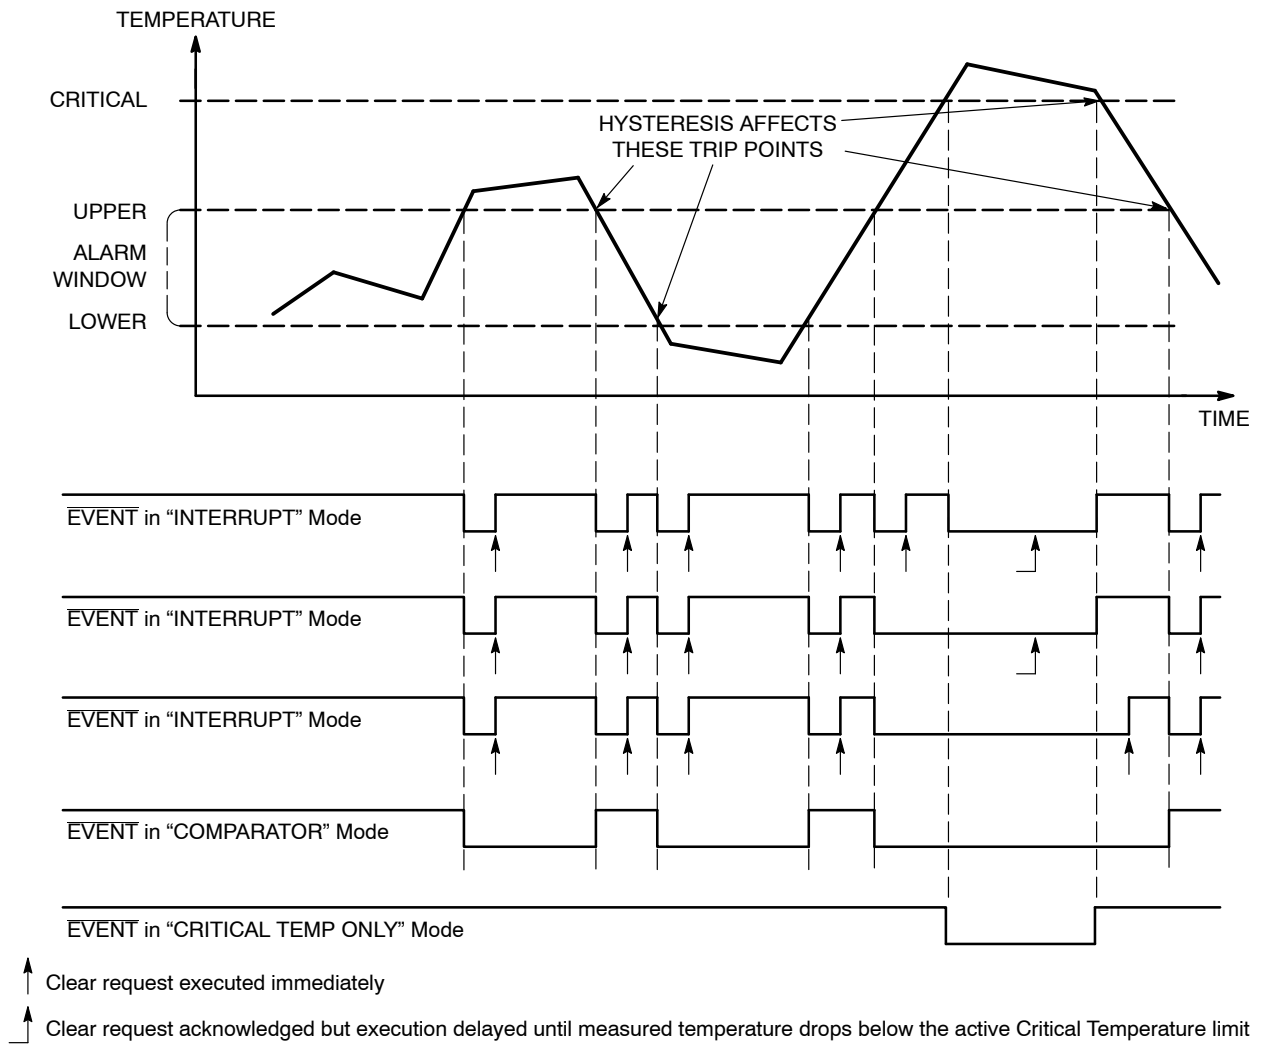

Figure 24. Event Detail
16. Writing a '1' to this bit clears an event condition in Interrupt mode, but has no effect in comparator mode. When read, this bit always returns 0. Once the measured temperature exceeds the critical limit, setting this bit has no effect (see Figure 24).
The $\overline{\text{EVENT}}$ output reacts to temperature changes as illustrated in Figure 24, and according to the operating mode defined by the Configuration register.